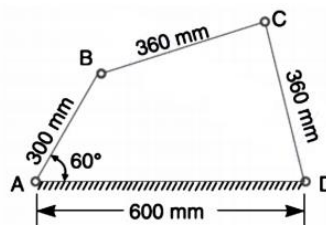

Figure-1
4. In a pin jointed four bar mechanism, as shown in Figure-1,  $AB = 300$  mm,  $BC = CD = 360$  mm, and  $AD = 600$  mm. The angle  $BAD = 60^\circ$ . The crank  $AB$  rotates uniformly at 100 rpm in clockwise. Find the angular velocity of the link  $BC$ . [12M]